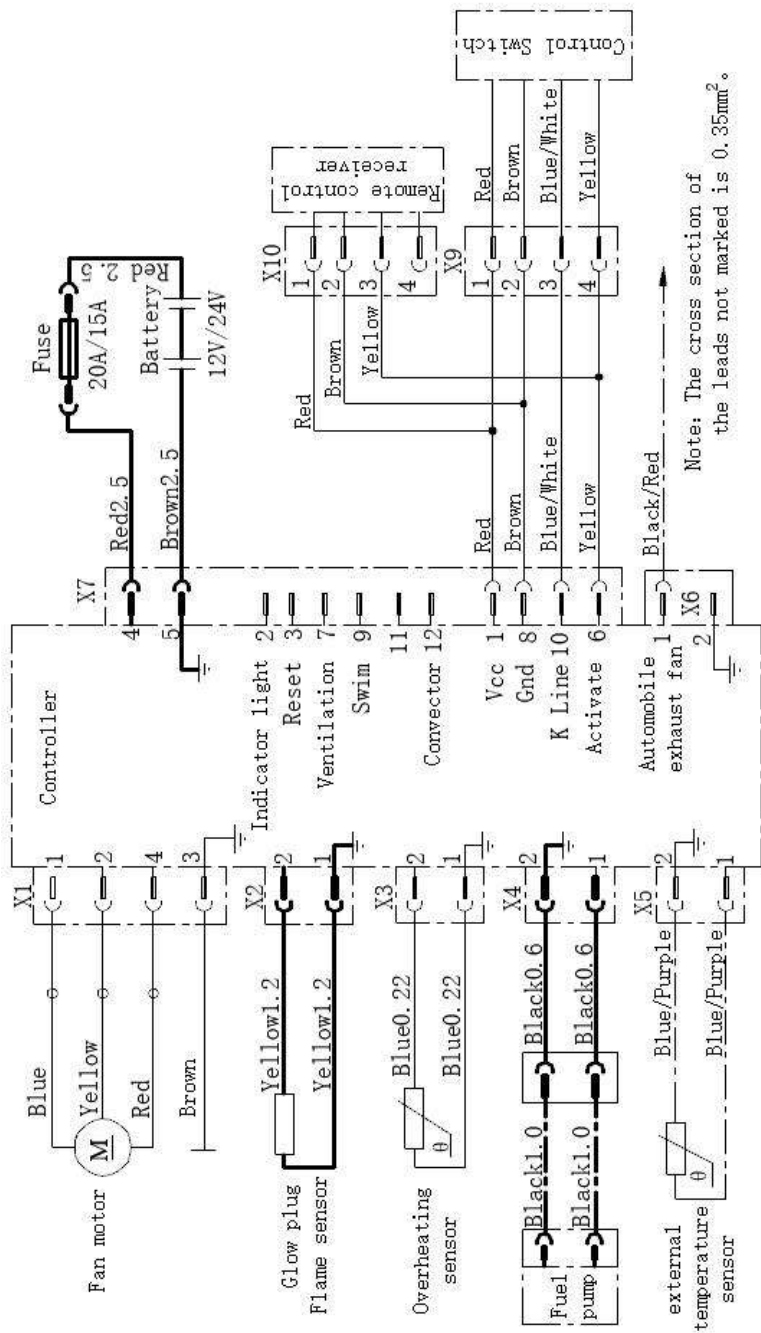

Fig.22
4.5.1 The wiring diagram for the heater is shown in Fig. 22. The wires of the main heater for connection to outside circuits have been made into wire bundles. They can be laid according to the positions of various components and shall be fixed in some proper locations. The distance between two fixing points shall not exceed 30cm. Attention: Any exposed wire bundle out of the vehicle body or out of the wiring groove must be protected by corrugated pipe.